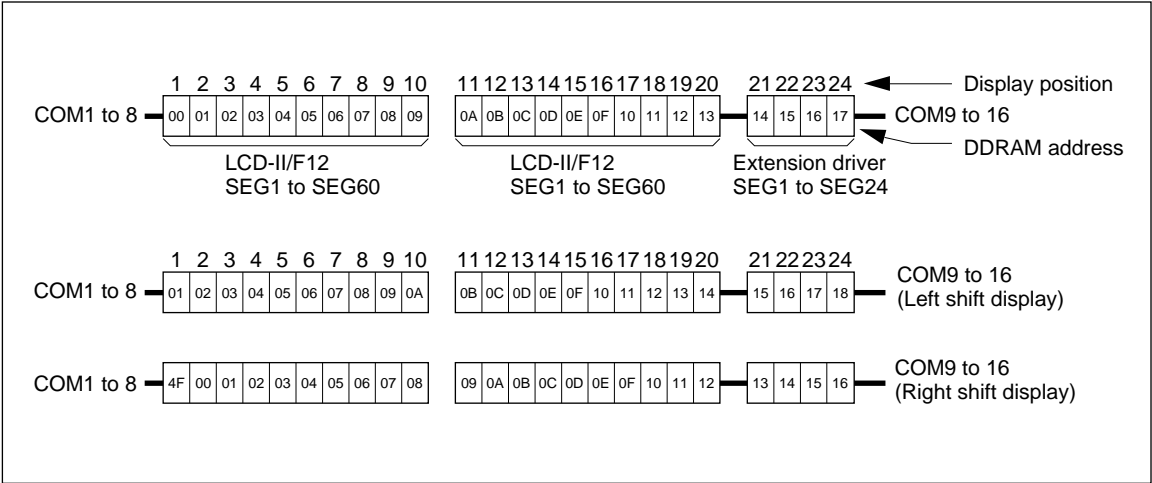

Figure 4 1-Line by 24-Character Display (6-Dot Font Width)
- Case 2: Figure 4 shows the case where the EXT pin is fixed high and the HD66712 and the 40-output extension driver are used to display 24 6-dot font-width characters. In this case, COM9 to COM16 begins at (0A)H.